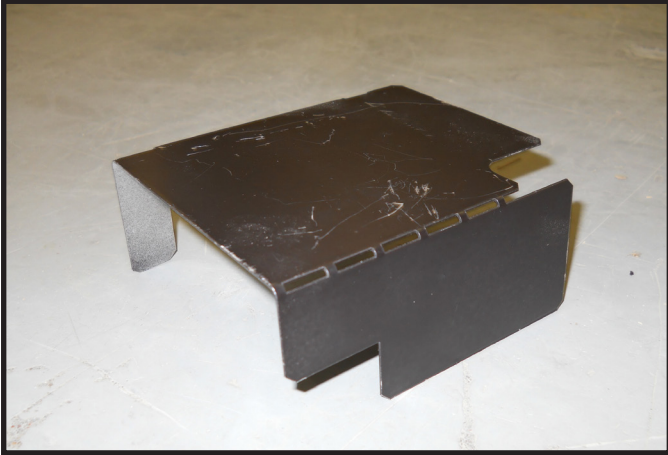

Figure 14.3 Heat Shield Bends
- Remove black sheet metal plate from manual bag. Bend (3) tabs approximately 90 degrees on plate to form shield as shown in Figure 14.3.